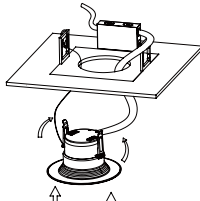

Fig. 5
- Step 5:** Squeeze the two housing clips so they are in an upright position and insert lamp into housing (Fig. 5).